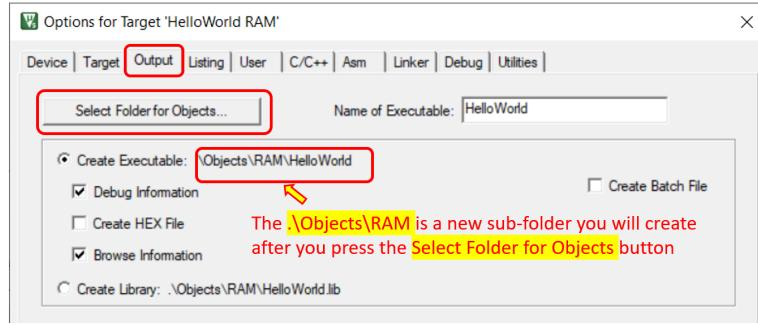

Figure 8.33: Keil IDE: Target Options Output Tab Configuration for RAM Target
8. Configure the Output tab so that the created executable will be put into a sub-folder of .\Objects\RAM (see Figure 8.33).